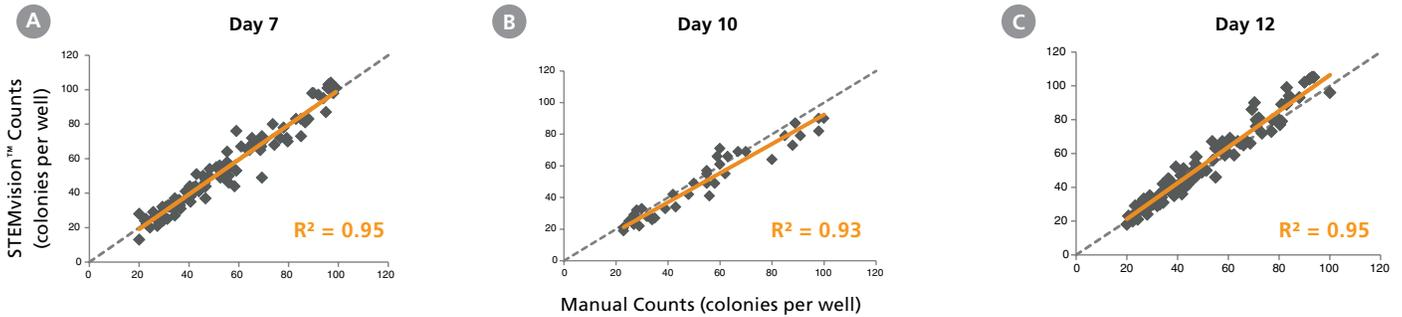

Figure 3. STEMvision™ Automated Counting is Highly Correlated to Manual Counting of Total (Myeloid Plus Erythroid) Colonies in Mouse BM CFU Assays
- For assays using MethoCult™ GF M3434, the Mouse Total CFU Analysis Package (Catalog #22008) provides a total count of combined myeloid plus erythroid colonies (Figure 3).